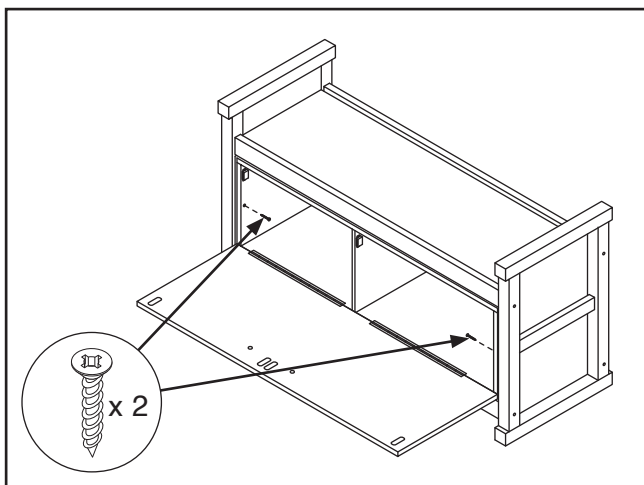

Figure 9. Attaching cabinet to workbench frame.
7. Place cabinet assembly between cross beams of workbench frame, then open cabinet front panel and fasten cabinet to workbench legs using (2) M4 x 30 tap screws (see **Figure 9**).